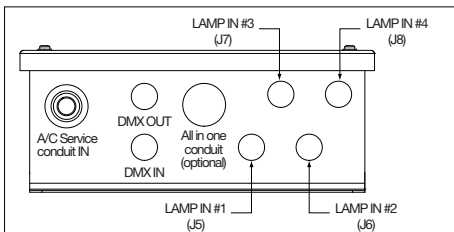

FIGURE 2
2. Install the power, communication, and LED accessory conduit fittings as desired to the enclosure (see FIGURE 2).
Note: The left most conduit fitting hole must be used for installation of power to the controller. The LED accessory and communications conduit connections should be placed as shown in FIGURE 2.
4. Install the ends of the conduit to the enclosure after routing the excess wire length into the enclosure at the appropriate locations (see FIGURE 2)
1. Locate the incoming cable for fixture #1 (see FIGURE 2). This cable will be attached to terminal block J5 on the PCB. Trim excess cable leaving no more than six (6) inches protruding from the conduit.
2. Carefully remove two (2) inches of insulation from the cable (a box cutter set to protrude less than 1/8” is good for this purpose). Cut from the desired removal location towards the cut end of the cable to prevent damaging the internal wires.
2. Locate the incoming DMX communication cable (see **FIGURE 2**). This cable will be attached to terminal block J3 on the PCB. Trim excess cable leaving no more than four (4) inches protruding from the conduit.